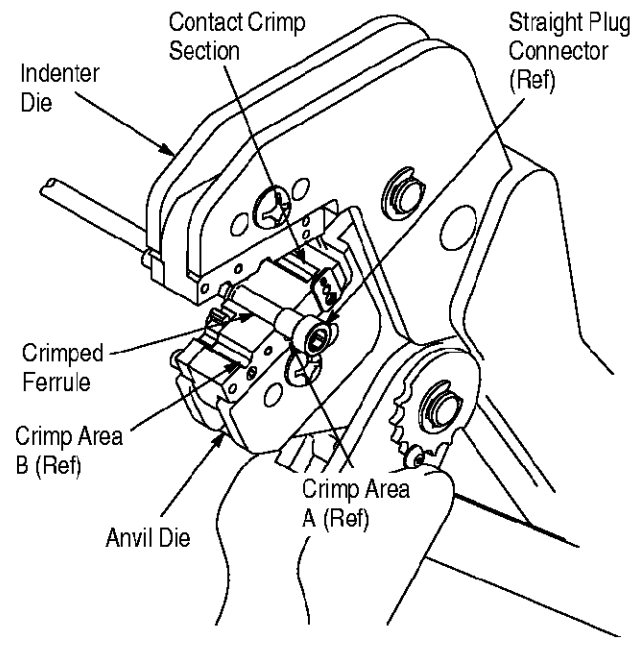

Figure 3
**4. CRIMPING PROCEDURE** (Figure 3)